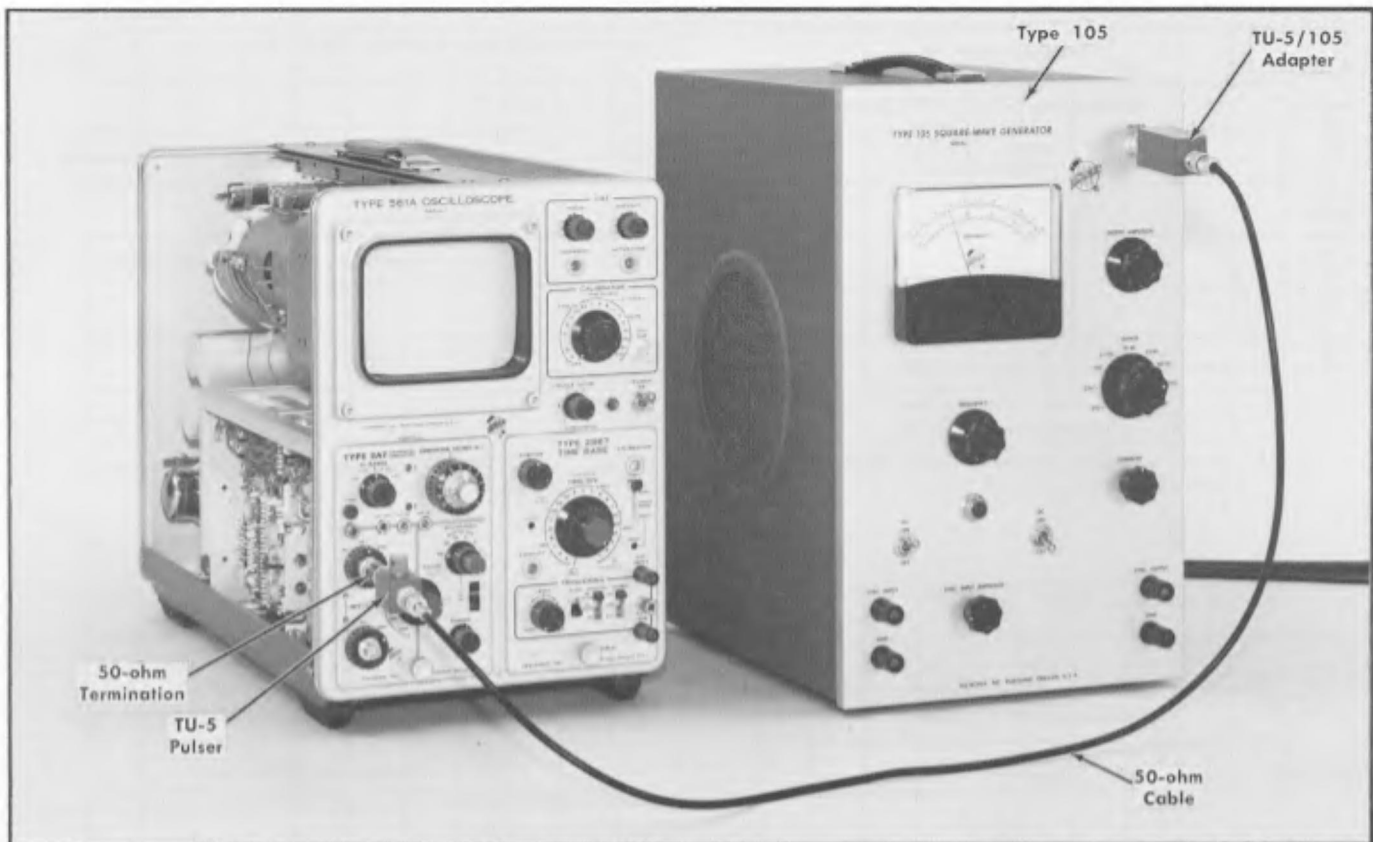

Fig. 5-43. Setup at completion of step 35c.
- c. Starting at the Type 105 Output connector, connect the following items in this order: TU-5/105 Adapter, 50-ohm coaxial cable, TU-5 Pulser and 50-ohm termination to the Type 3A7 input A connector. Fig. 5-43 shows the setup for this step.